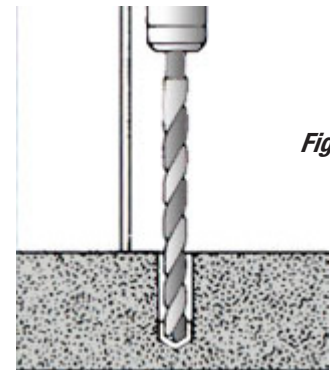

Figure 6
6. Before starting to drill the hole, it is important that eye and ear protection are used. Make sure the hammer drill is in the hammer mode and start drilling your hole. Continue drilling until the tape on the bit or the drill gauge meets the base material- this means that the required depth has been reached. (Figure 6)